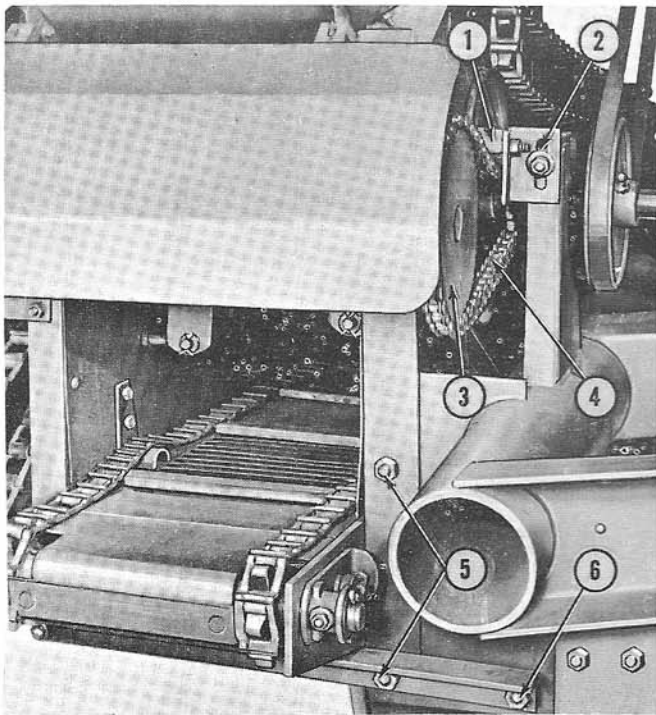

Figure 10
2. Attach the right end of the unit to the main frame with three bolts, lock washers and nuts (5) and (6), Figure 10. Use two spacers between the angle and frame on the bolt (6).
4. On corn pickers, install the husk unit drive chain around the drive sprocket (4), Figure 10, and the driven sprocket (3). Assemble the drive chain slide block (1) and the mounting bracket (2), and attach the assembly to the frame as shown with the carriage bolt, flat washer, lock washer and nut provided.